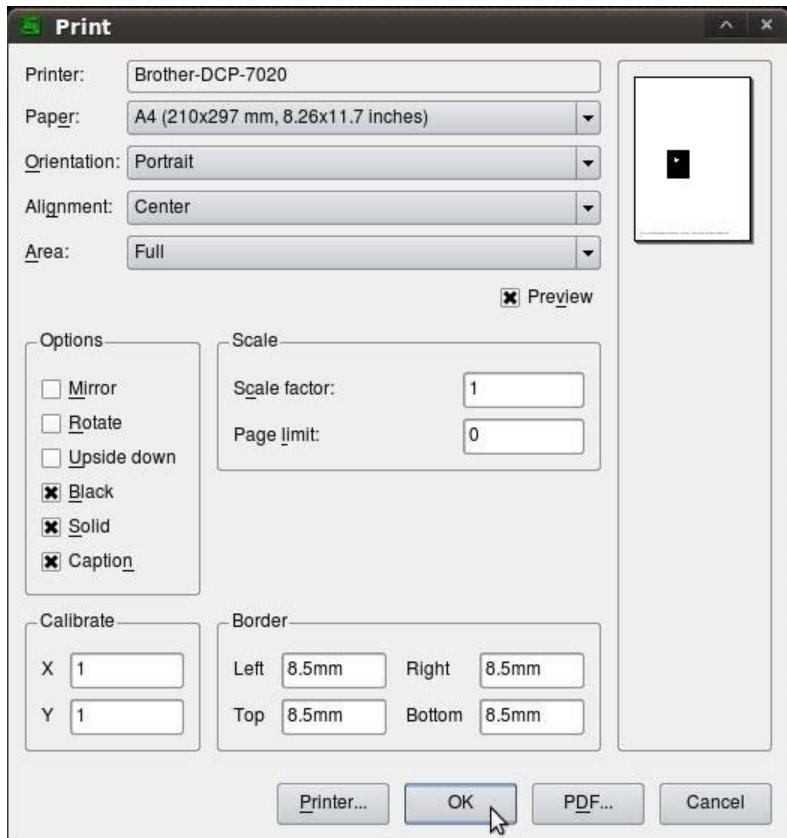

Figure 6-16. When you are ready to print, make sure you select the Solid and Black options from the Print Setup menu.
10. *Printing the design:* To print, go to File Print and make sure the boxes are checked for Black and Solid in the Options box, as shown in Figure 6-16. Feed a piece of magazine paper into the manual feed tray of your laser printer, and press OK to print.
Following the directions described in the “Making a Design in Eagle” section for printing the designs (see Figure 6-16), select the Layers tool from the board editor menu and make sure that only the Bottom, Pads, and Vias layers are selected. You should now see only the blue bottom layer and the green pads and vias where holes will be drilled. Remember that when you open a design that has a Ground plane in Eagle, you must first select the Ratsnest tool to fill it in. After filled, the design is ready to print.